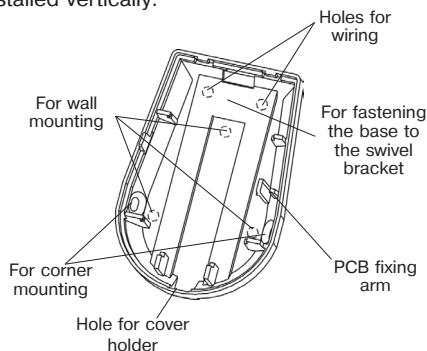

Figure 2 – Base of the Detector
- press out the fixing arm which holds the PCB and remove it from the Detector base (see Figure 2);
- drill the holes (Figure 2) in the base of the Detector case. They will be used for fastening the Detector;